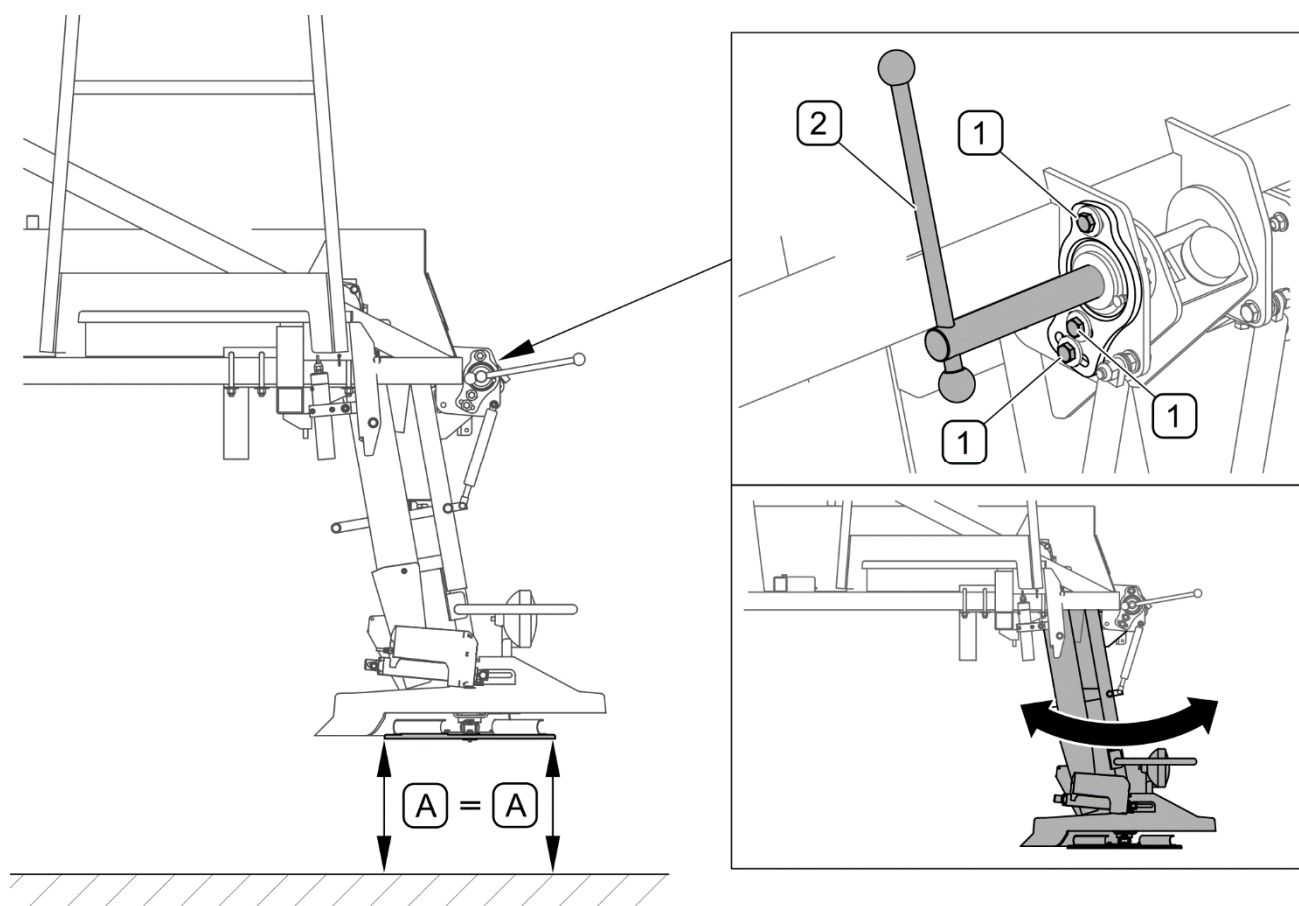

FIG. 4.12 Levelling the spreading disc
(1) - M10x35 bolt; (2) - clamp bolt;
During operation, the spreading disc should be levelled. To check that the spreading disc is level, measure the distances between the disc and the ground in two extreme points (A) to confirm that the distances are the same (FIG. 4.12). Otherwise, make adjustment as follows:
- check that clamp bolt (2) is tightened,
- loosen three bolts (1),
- shift the spreading mechanism forwards or backwards in order to set the spreading disc in such a manner that distances (A) are the same,
- tighten bolts (1).